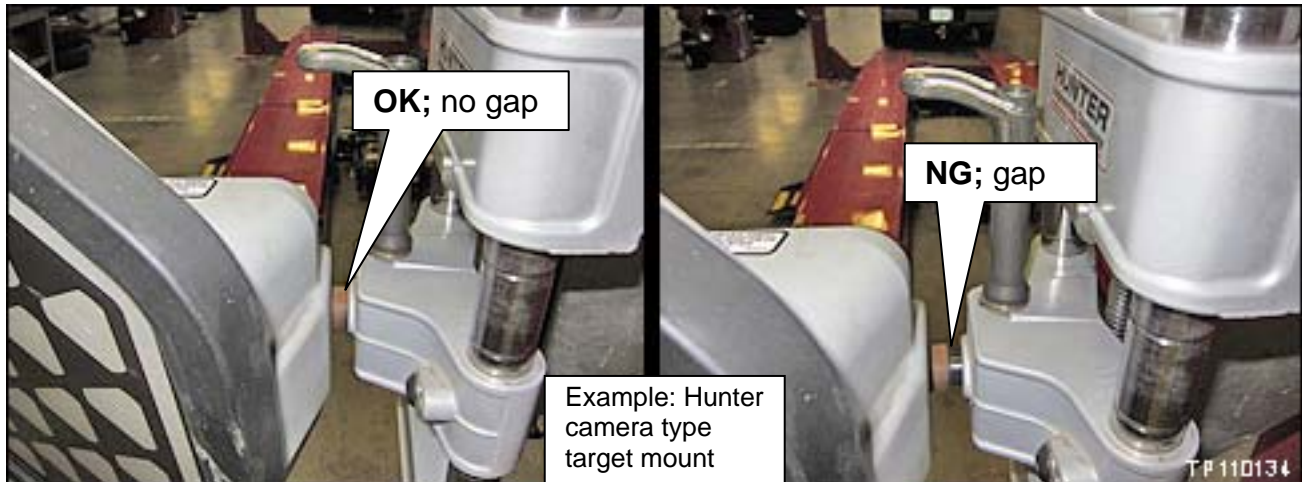

Figure 14
- Target must be flush against the center support as shown in Figure 14.